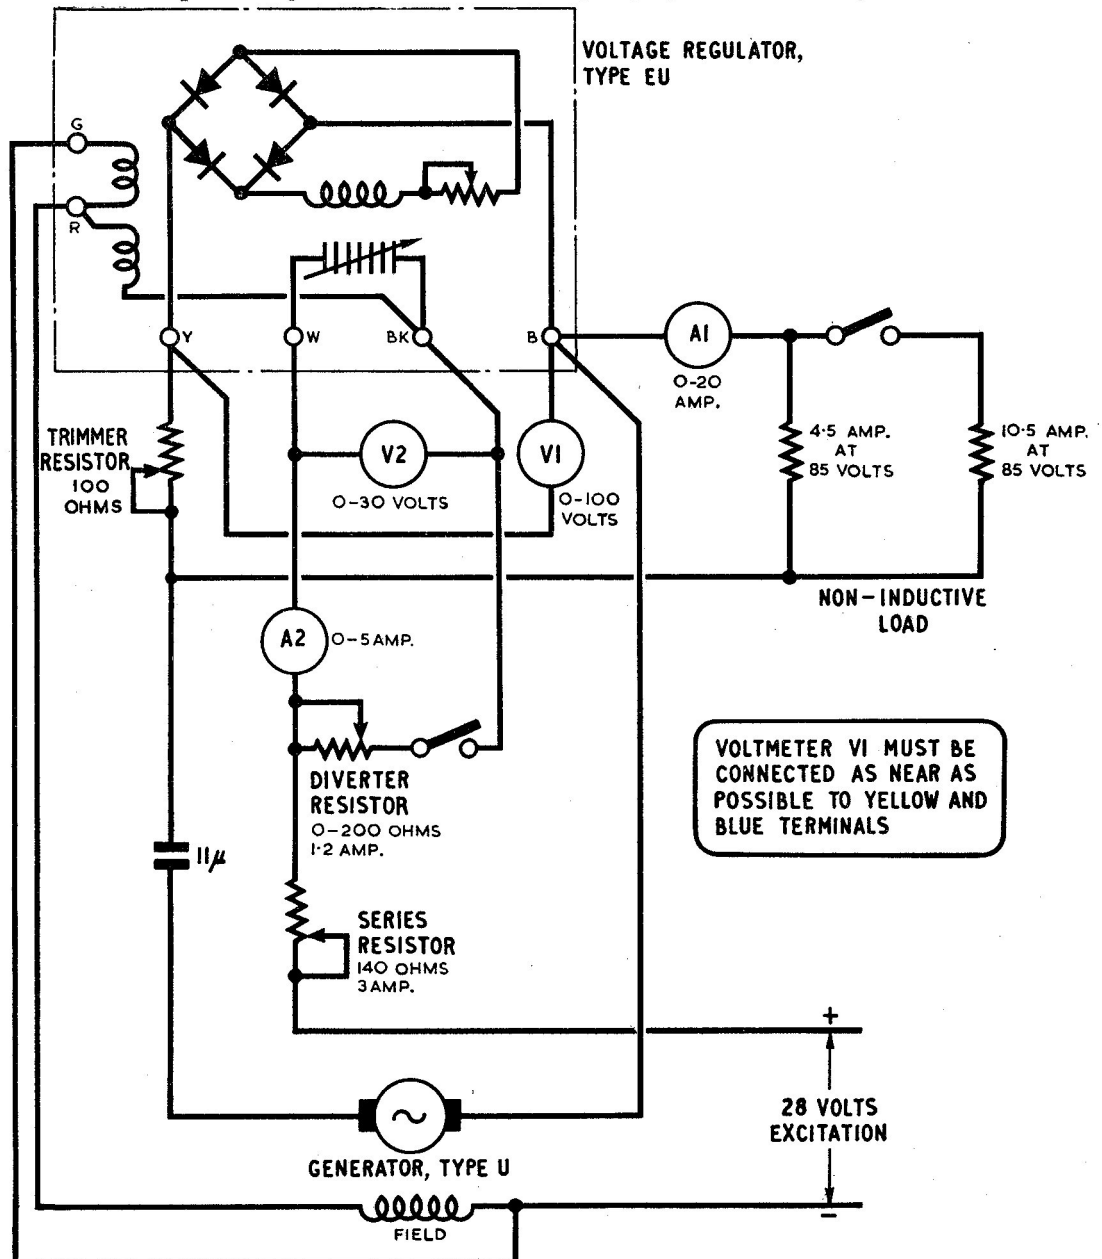

Fig. 2. Test circuit diagram
6. Connect the regulator in the test circuit as shown in fig. 2, the generator used being a Type U (Stores Ref. 5UA/349) excited from a 28-volt supply. For all tests the speed of the generator must be maintained at 4,000 r.p.m. unless otherwise stated.
14. The full tests are not necessary for a new regulator. It can be tested as follows, by connecting it in the test circuit as shown in fig. 2, but without the series and diverter resistances, and without meters V2 and A2.